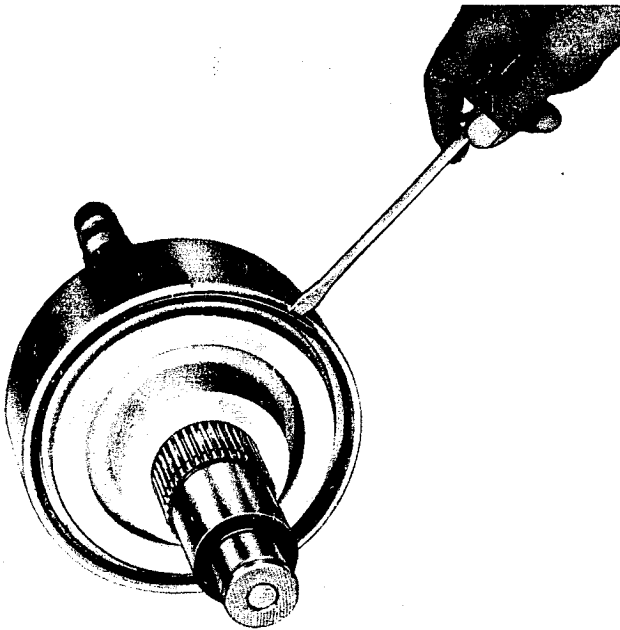

Fig. 34 -- Removing Clutch Actuating Piston Retaining Snap Ring (T-35085)
- d. Remove actuating piston retaining snap ring, Fig. 34; install filler ring, Fig. 39 in snap ring groove with chamfered side toward piston. Slide piston housing off piston; remove piston and housing from shaft.